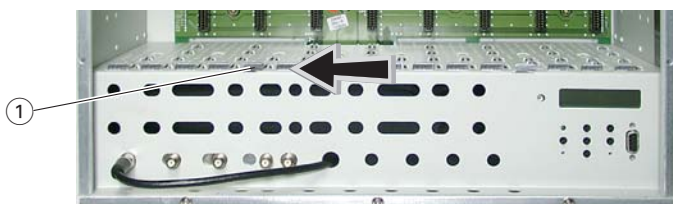

Fig. 3
- Open the locking device ① in the direction of the arrow (fig. 3).